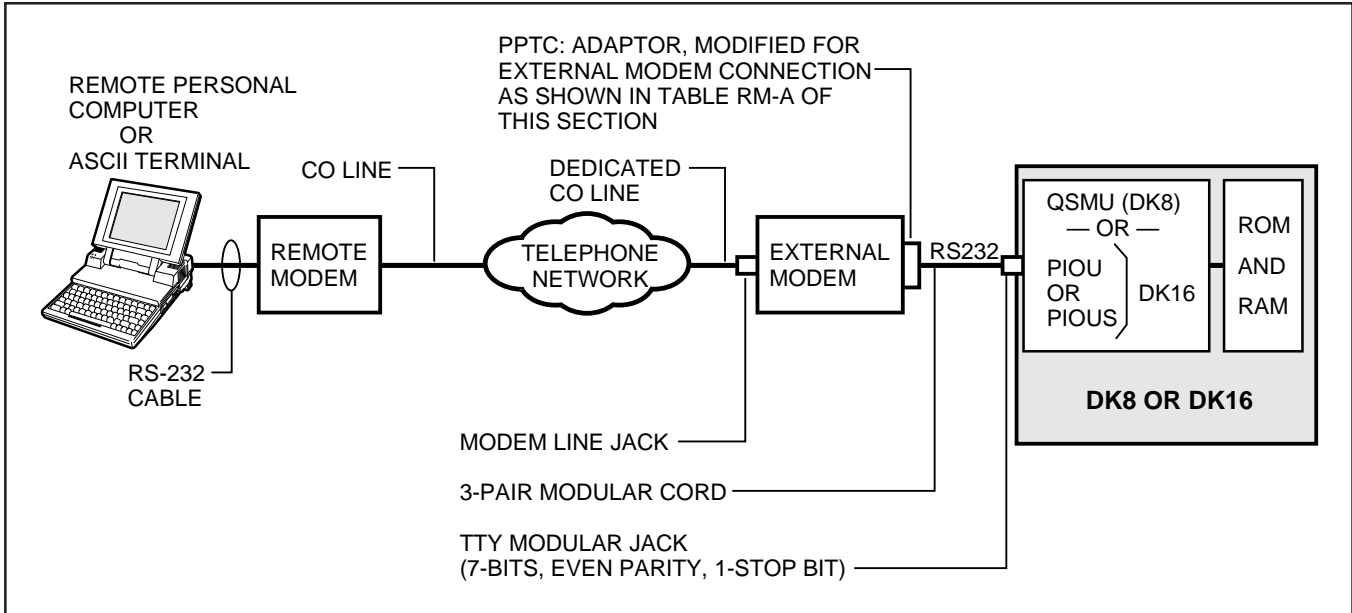
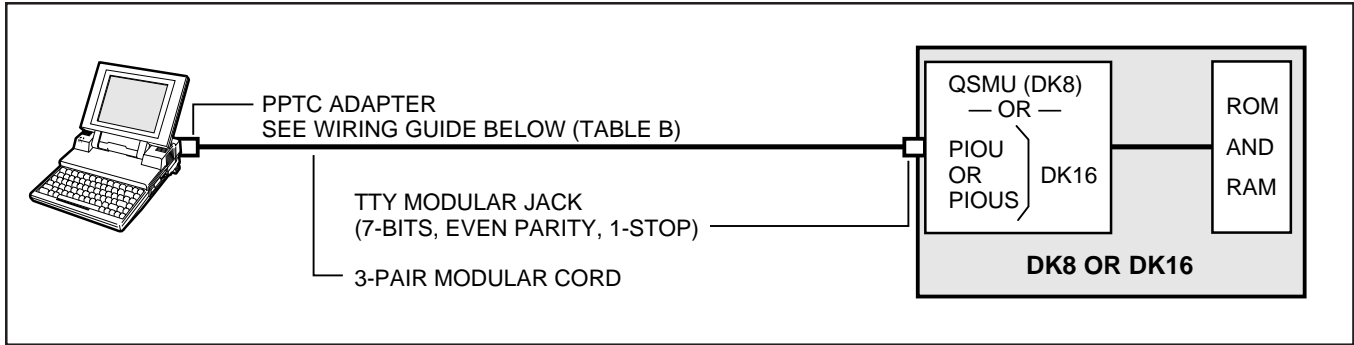

FIGURE 2
FIGURE 5
2.01 With the STRATA DK8, Remote Administration and Maintenance is accomplished with a remote terminal/modem communicating over the public telephone network, but only via an external modem connected to a dedicated CO line or standard telephone port. See Figures 2 and 3. With STRATA DK16 Remote Administration and Maintenance is accomplished with a remote terminal/modem communicating over the public telephone network via either an external modem (connected to a dedicated CO line or a standard telephone port); or, a modem unit (IMDU) installed on a PIOU or PIOUS PCB in the Expansion Unit. See Figures 2, 3 and 4.
All the functions in the preceding paragraphs are also available via an on-site terminal connected directly to an optional PIOU(S) PCB with DK16, or the optional QSMU PCB with DK8. These functions are also available to a terminal with a modem connected to a standard telephone port (Paragraph 5 and Figure 5).
3.01 For Remote Administration and Maintenance operation, the STRATA DK16 system must be configured with either an IMDU-equipped PIOU(S) PCB in the optional Expansion Unit or an external modem connected to a PIOUS(S) and a dedicated CO line or standard telephone circuit. (See Figures 2, 3, and 4.) The STRATA DK8 must be configured with a QSMU PCB and an external modem connected to a dedicated CO line or standard telephone circuit. (See Figures 2 and 3.)
- A customer-supplied maintenance terminal can be connected to the system TTY port (DK8 QSMU, or DK16 PIU or PIOUS) via an external modem either locally (Figure 5) or remotely (Figures 2 and 3).
1. An external modem is required for Remote Maintenance if a QSMU is installed on DK8, or if an IMDU is not installed on DK16 PIU or PIOUS. The IMDU has a built-in maintenance channel for remote connection; however, an external modem requires a CO line or standard telephone port (Figures 2 and 3).
4.21 Install the ASCII terminal in accordance with the following steps (Figure 5):
4.32 **DK8 and DK16 External Maintenance Modem Installation.** Refer to Figure 2 or 3, as applicable, and install the external modem in accordance with the following steps:
5.01 For DK16, the optional Expansion Unit must have a PIOU or PIOUS PCB installed to perform on-site Remote Administration from a local terminal. For DK8, a QSMU PCB is required. Paragraph 4 and **Figure 5** provide installation details on local terminal installation.
5.02 The local terminal for either the STRATA DK16 or the DK8 must have an EIA RS-232 interface, communicate in ASCII code at 300 or 1200 bps (1200 bps only for DK8), have a standard typewriter-type keyboard, and display data via a CRT display or printer. A personal computer (PC) capable of emulating the described terminal with a communications software package (such as PROCOMM) may also be used (Figure 5).